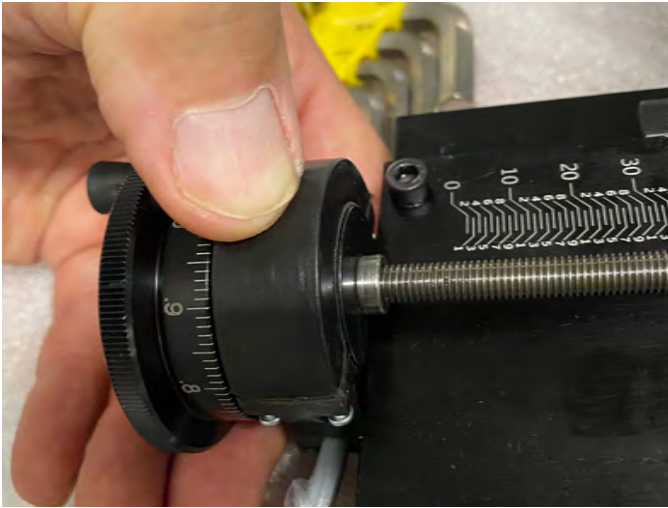

FIGURE 26
- C. Place the top half onto the thrust collar with the step in the groove and press both top and bottom halves together (see Figure 26).